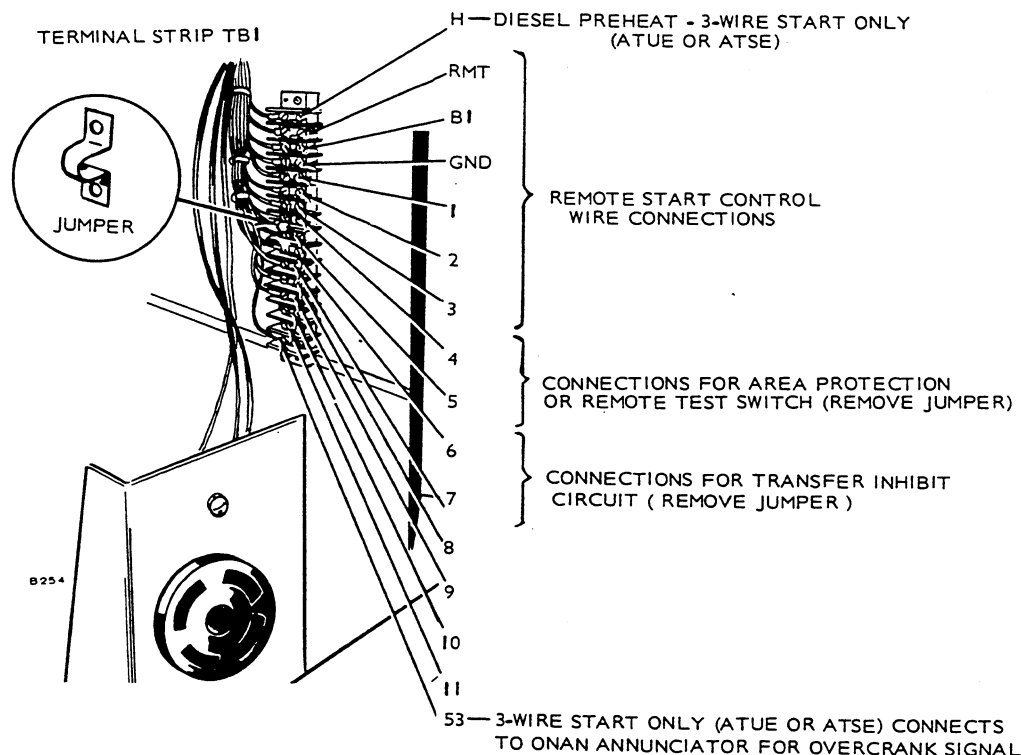

FIGURE 6. CABINET TERMINAL BLOCK TB1 (SPEC B SHOWN)
6. **Low Voltage DC Control Wires:** Connect the DC control wires from the automatic transfer switch terminal block TB1 to the generator set (Figure 6). AT-C and AT-D models use three terminals, B+, ground (GND) and remote (RMT). AT-E models use four terminals, B+, 1, 2, and 3. Use number 16 wire up to 100 feet or 31 metres (maximum of 0.5 ohm per line).
- Remove terminal jumper located between terminals 4 and 5 of terminal strip TB1 (Figure 6).
8. **Diesel Preheat Time Delay (if used):** If this delay is used for operation of glow plugs on three-wire start generator sets, connect a wire from terminal TB1-H in the automatic transfer switch (ATUE or ATSE only) to terminal H on the generator set. TB1 of an open-construction AT is located on inside, lower left panel of the control cabinet. Use number 16 wire for distances up to 100 feet or 31 metres (maximum of 0.5 ohm per line). See Figure 6.
9. **Onan Annunciator Connection for Overcrank (if used):** Connect a wire from terminal TB1-53 in the automatic transfer switch (AT-E only) to terminal 53 on the Onan annunciator panel (Figure 6). TB1 of an open-construction AT is located on inside, lower left panel of the control cabinet. Use number 16 wire for distances up to 800 feet or 244 metres (maximum of 4 ohms per line).
10. **Transfer Inhibit Circuit.** To inhibit transfer of the automatic transfer switch by another automatic transfer switch (for paralleling systems, priority selection systems, etc.), remove the jumper between TB1-6 and TB1-7. Connect the wire leads from the external equipment to these two terminals. See Figure 6.